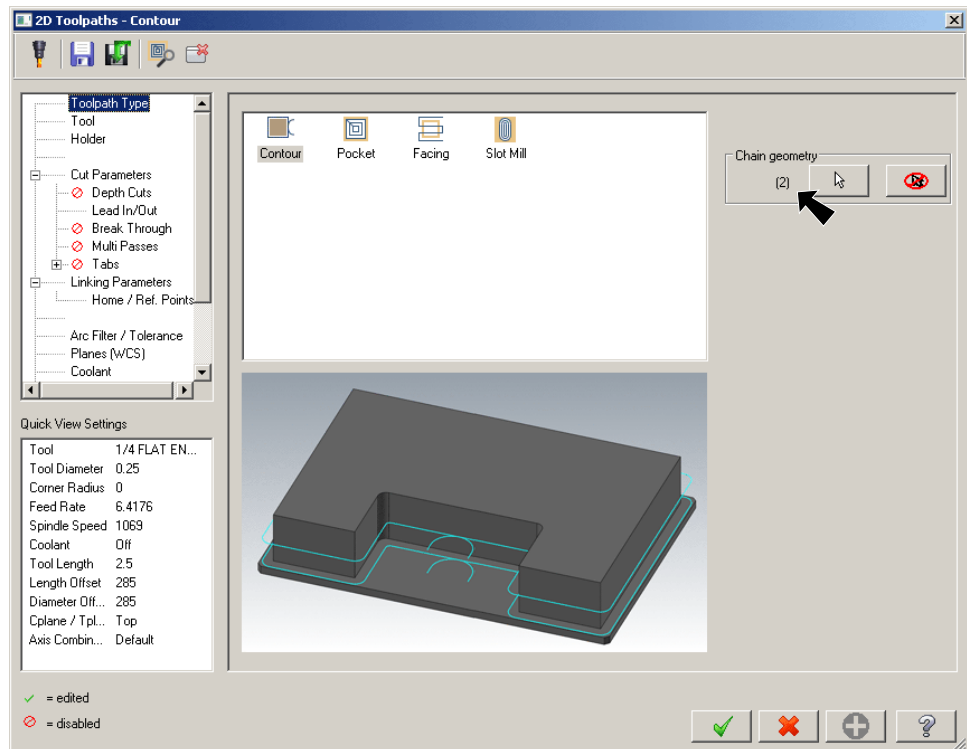

Fig. 73
Step 6. In the 2D Toolpaths Contour dialog box confirm **2 Chains** **Fig. 73**.